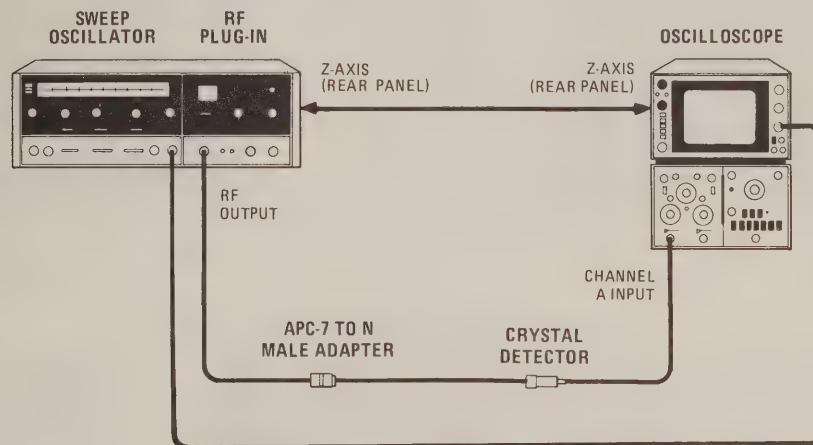

Figure 4-6. Display Blanking and RF Blanking Test Setup
- Connect equipment as shown in Figure 4-6.